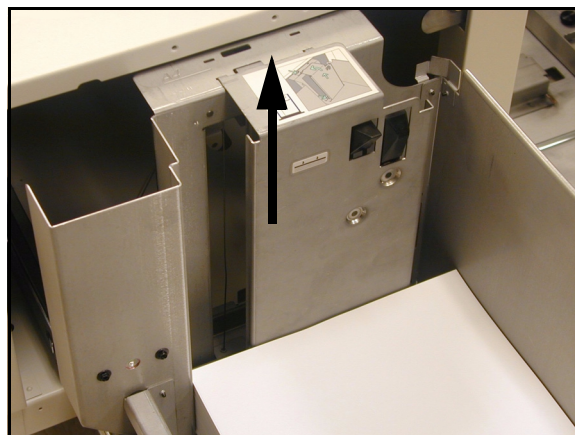

Figure 3: The HCF Paper Guide
- Remove the metal Paper Guide by pulling it straight up (Figure 3).